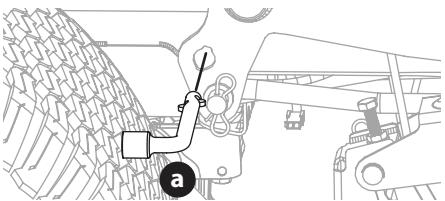

Figure 44
5. On tractors equipped with the deck lift knob or pin, use the deck lift pedal and deck lift knob or pin to place the deck in the lowest position and use the multi-tool (a) (if equipped) to lock the deck lift components in place as shown in Figure 44. On tractors with a deck lift handle, lower the deck into the lowest position.